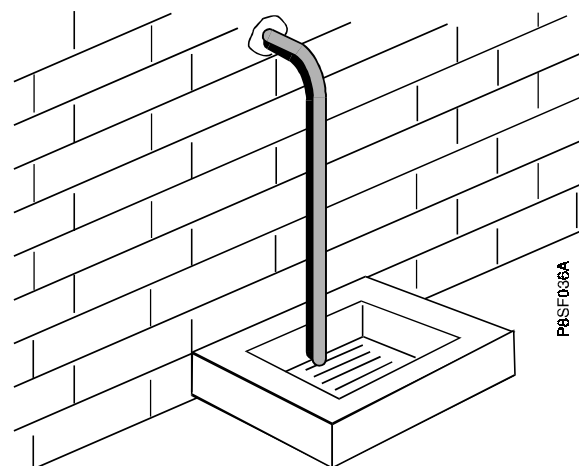

Fig. 15
**Note: It must not discharge above an entrance, or window, or any type of public access. The installer must consider that the overflow could discharge boiling water. See Fig. 15.**